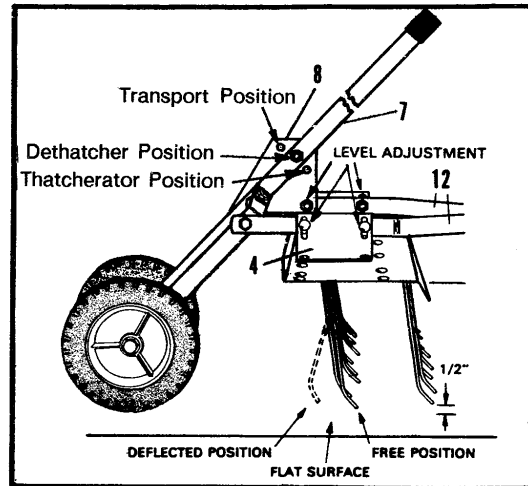

Fig. 5
Refer to Figure 5.
- Position the Lift Bar (7) in the center position of Lift Lock Plate (8). This position is for dethatching.
- Make adjustments to the Pull/Transport Bars (12) at the Tray Mount Brackets (4) as necessary to place the Tine Tips about 1/2" off flat surface when in the "free" position. The Tine Tips should touch surface when manually deflected back. Refer to Figure 5. Tighten all Bolts securely to hold this position.